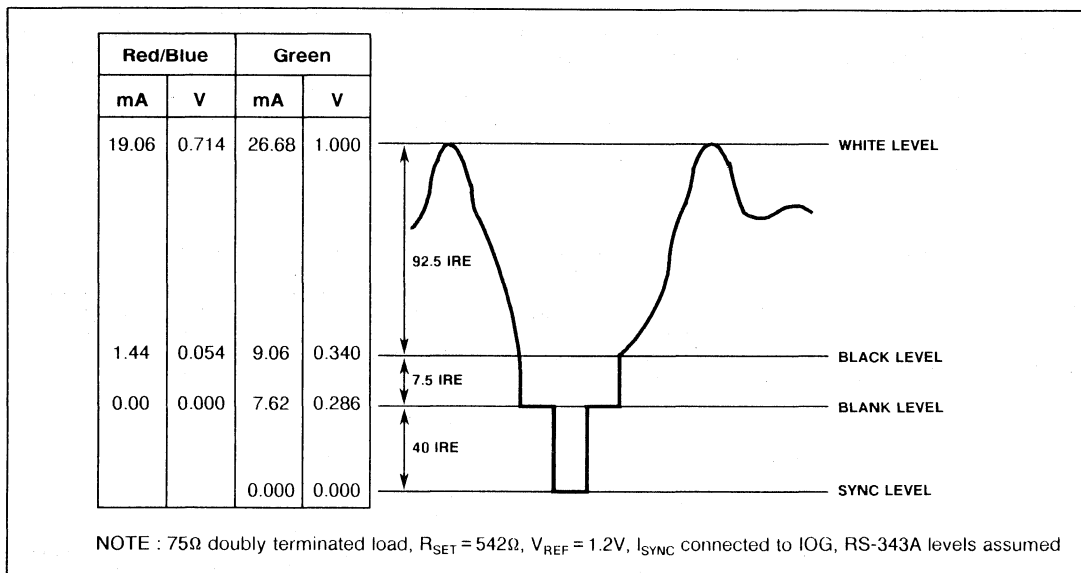

Fig.3 Composite video output waveform
SYNC and BLANK are latched on the rising edge of the clock to maintain synchronisation with the colour data. These inputs add appropriately weighted currents to the analog outputs, producing the specific output levels required for video applications as shown in Fig. 3. Table 1 details how the SYNC, BLANK and REF WHITE inputs modify the output levels.
FS ADJUST	Full scale adjust control. A resistor (R _{SET}) connected between this pin and AGND controls the magnitude of the full video signal (Fig. 3). The current flowing in the R _{SET} resistor is equal to 32 LSBs. Note that the IRE relationships in Fig. 3 are maintained, regardless of the full scale output current. The relationship between R _{SET} and the full scale current on IOG (assuming I _{SYNC} is connected to IOG) is: $\text{IOG (mA)} = 12082 \times \frac{V_{\text{REF}} \text{ (V)}}{R_{\text{SET}} \text{ (}\Omega\text{)}} \equiv 387 \text{ LSBs}$ The full scale output current on IOR and IOB for a given R _{SET} is defined as: $\text{IOR, IOB (mA)} = 8624 \times \frac{V_{\text{REF}} \text{ (V)}}{R_{\text{SET}} \text{ (}\Omega\text{)}} \equiv 276 \text{ LSBs}$